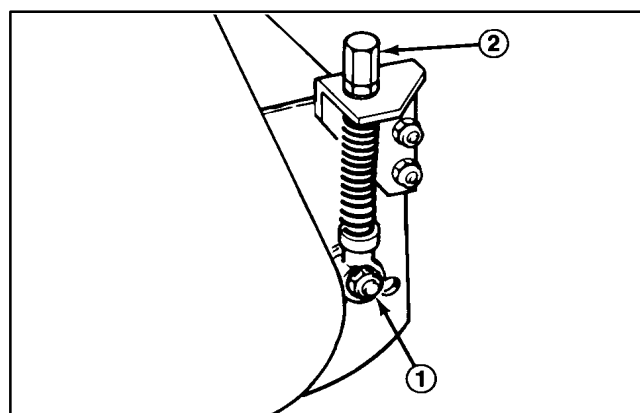

Figure 5
B. If no contact – loosen the adjuster locking nut on each adjuster (Fig. 5). Then, equally turn each adjuster knob clockwise until light contact is felt and heard.